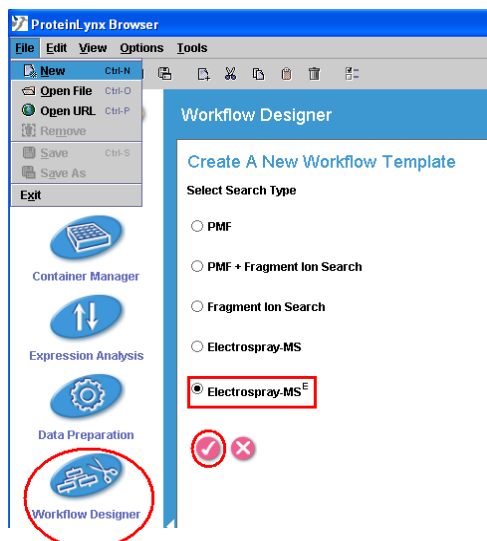

Figure 95 - Workflow Designer pop-up
5. Click **File > New** and select **Electrospray-MSE** (Figure 95).